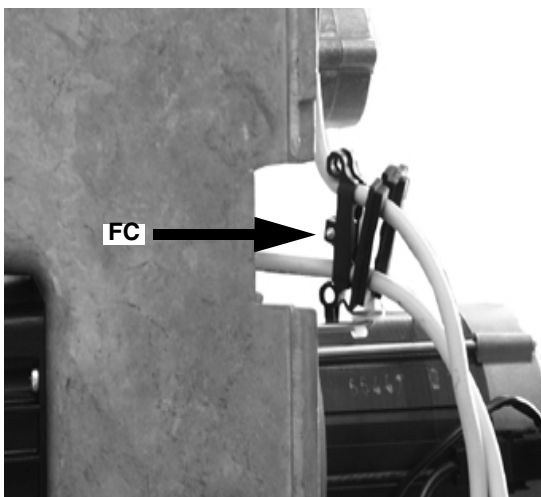

Fig. 38
- 3 Remove the rubber and cable gland unit FC from the housing (Fig. 38).